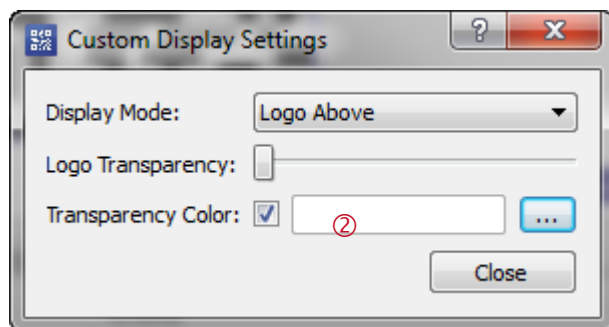

Figure 21: Custom Display Settings
Choosing of a single transparency color. If the selected color occurs in the logo, it is drawn transparently. (see also ① in Figure 21 – white was chosen as transparency color ②).